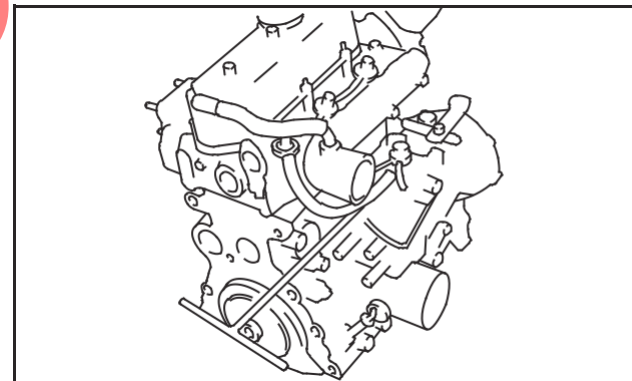

Fig. 7 – Loosen Pump
1. Loosen injector pump mounting nuts and pump support bracket screw, Fig. 7. Rotate pump toward cylinder head as far as it will go.